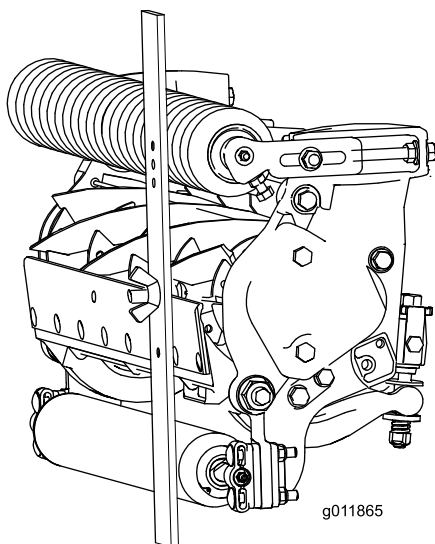

Figure 19
3. Hook the screw head on cutting edge of bedknife and rest rear end of bar on rear roller (Figure 19).
4. Rotate the adjusting screw until the front roller contacts the gauge bar (Figure 19). Adjust both ends of roller until entire roller is parallel to the bedknife.